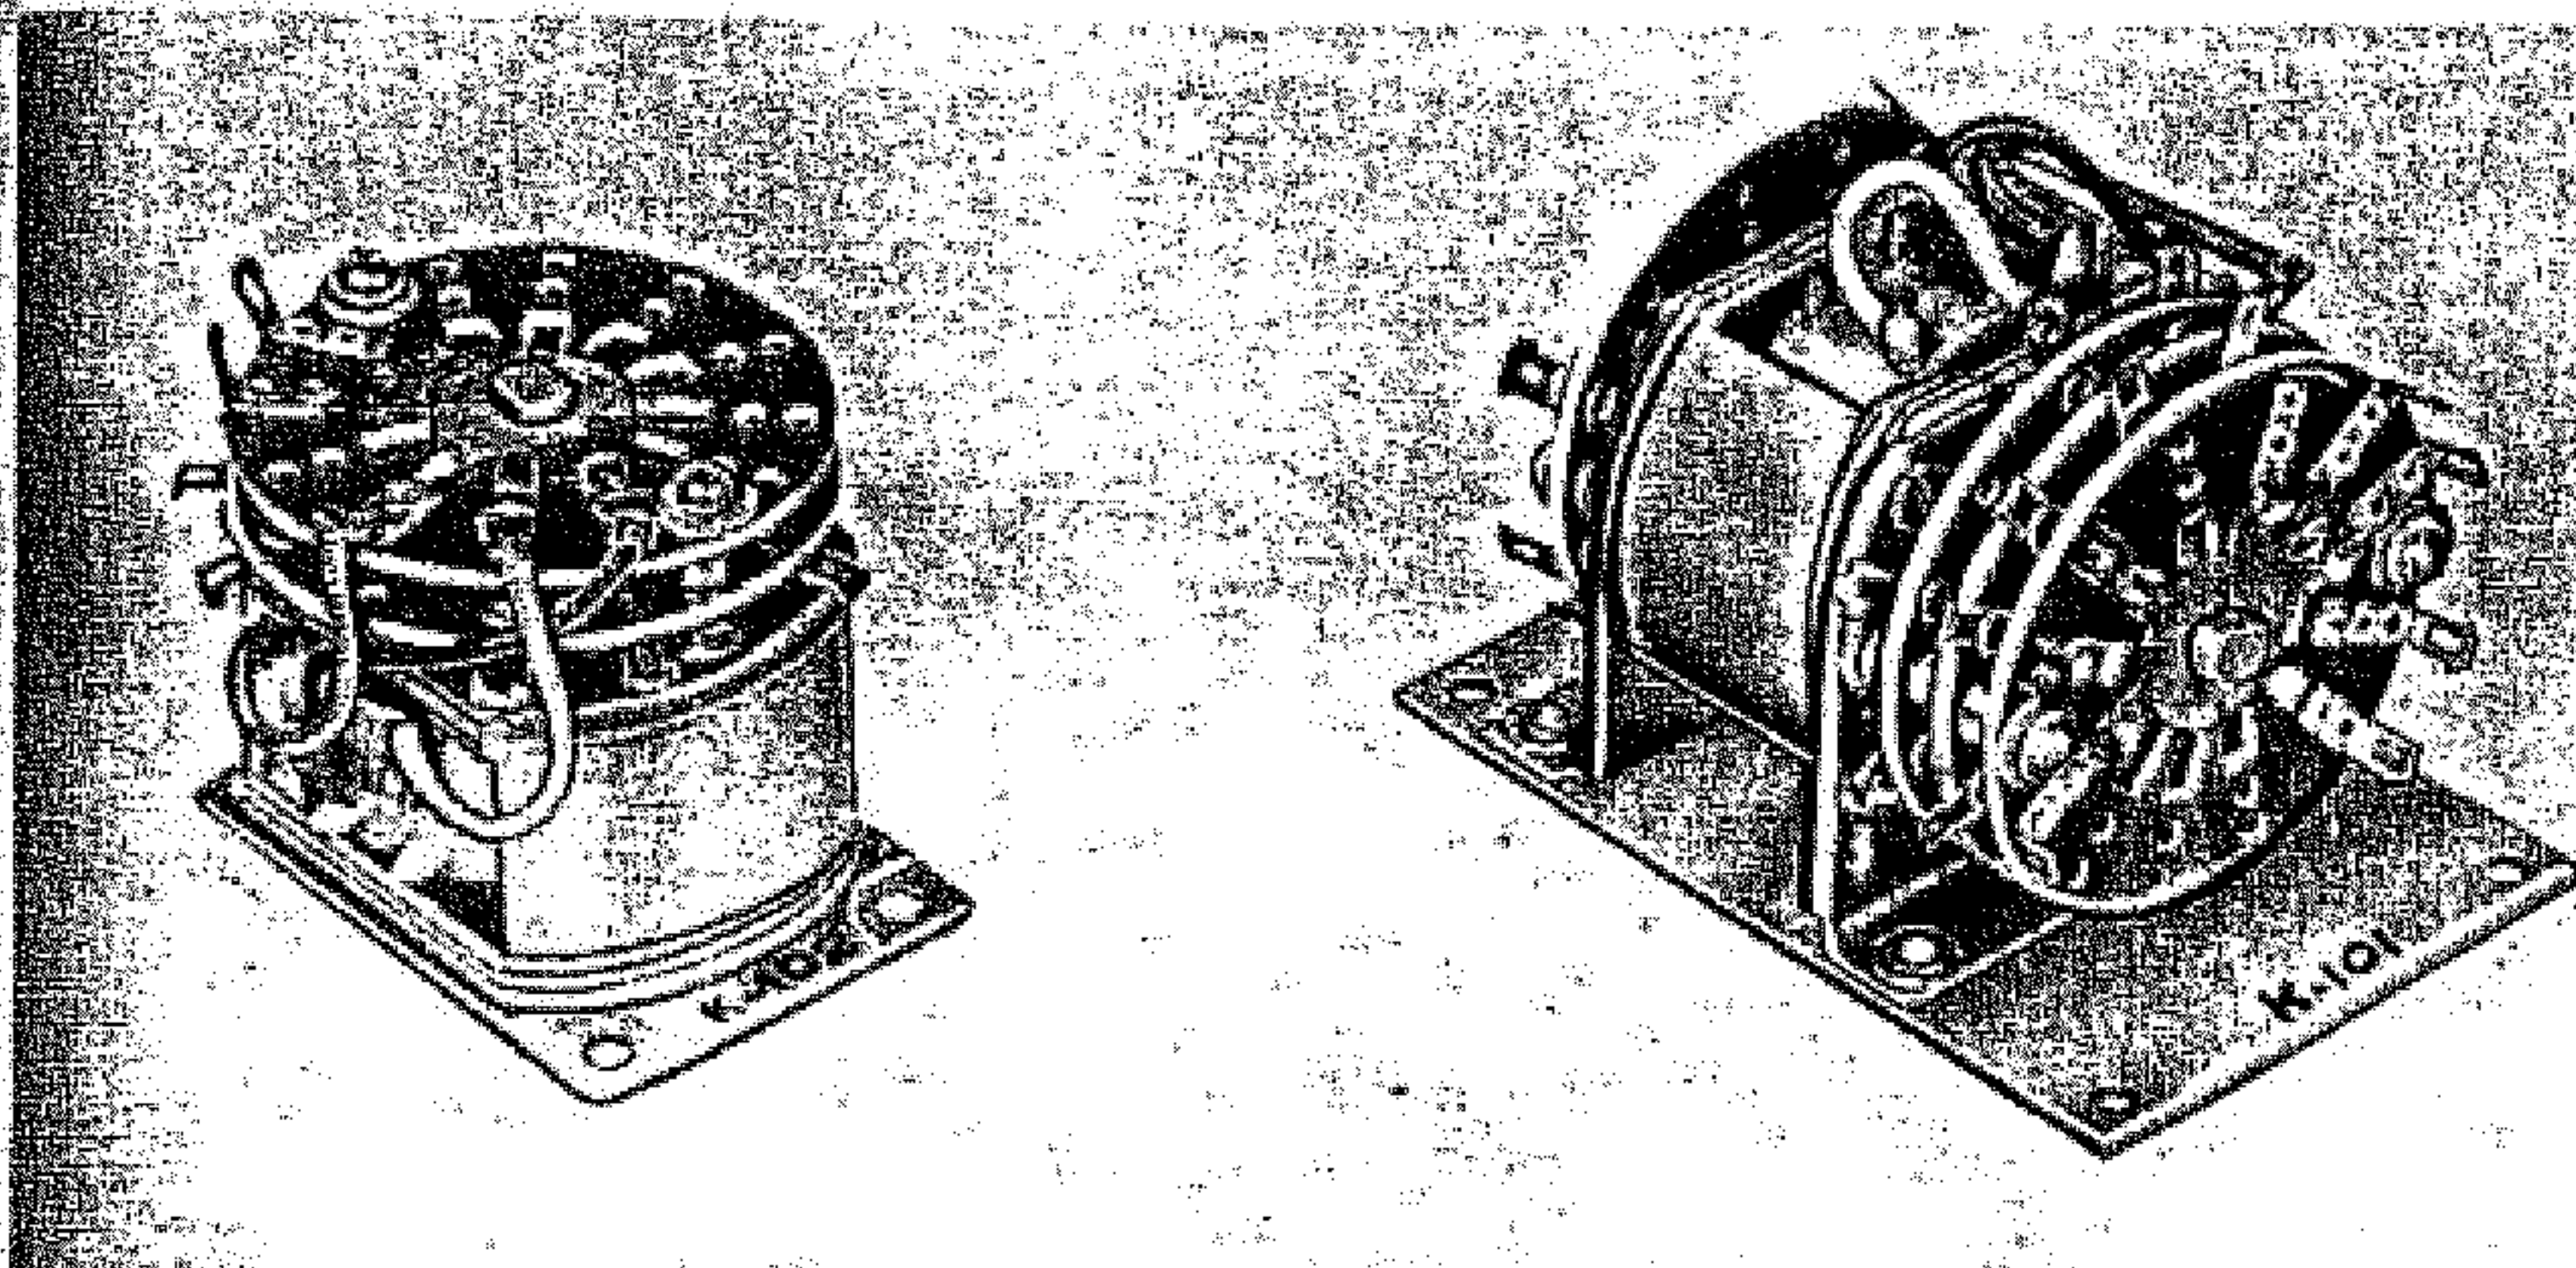

Figure 5-9. Loop and Antenna Relays K-101 and K-102
(1) Operate Radio Compass AN/ARN-6 with function switch in "ANT." position. Tune in stations of known power on each band and note whether reception is normal. If trouble is experienced on only one or two bands, proceed as outlined in paragraph 3.f., this section. If unsatisfactory operation is obtained on all bands, proceed as outlined in paragraph 3.g., this section. If "ANT." operation is satisfactory, proceed as follows.
(2) Operate Radio Compass AN/ARN-6 with the function switch in "LOOP" position. Check loop rotation with the "LOOP L-R" switch. If loop rotation is unsatisfactory, proceed as outlined in paragraph 3.b., this section. Should loop rotation be satisfactory in "LOOP," and receiver output normal in both "LOOP" and "ANT.," the difficulty may be in the compass and loop control circuits.
(3) Check for correct operation of antenna relay K-102 and loop relay K-101. (See figure 5-9.) With the function switch in "ANT." position, antenna relay K-102 should be energized and loop relay K-101 should remain in its unenergized position. Switch to "LOOP" and note the loop relay K-101, which is now energized, and antenna relay K-102, which becomes de-energized. In "COMP-ADE," operation both relays should remain unenergized. If either relay does not operate normally,